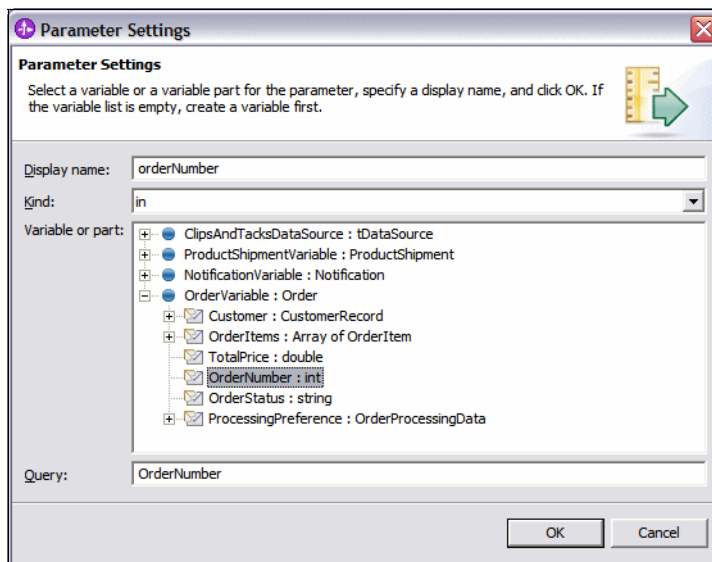

Figure 10-82 Information service parameter settings
- Click *Parameter* to add a parameter called *orderNumber*, which takes its value from the *OrderNumber* in the *Order* business object (Figure 10-82). Click *OK*.